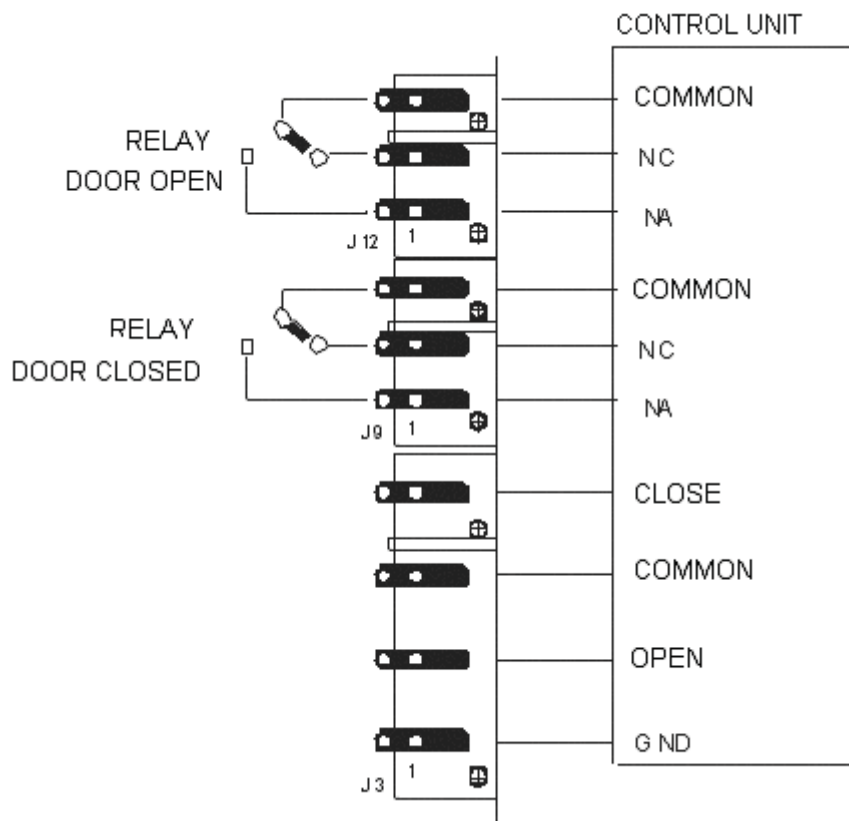

figure 4.9
- **Door open:** This contact will only commute when the door is completely open. Whilst the door is in the open stage, it will be in repose (figure 4.9).
- **Door closed:** This contact will only commute when the door is completely closed. Whilst the door is in the closed stage, it will be in repose (figure 4.9).